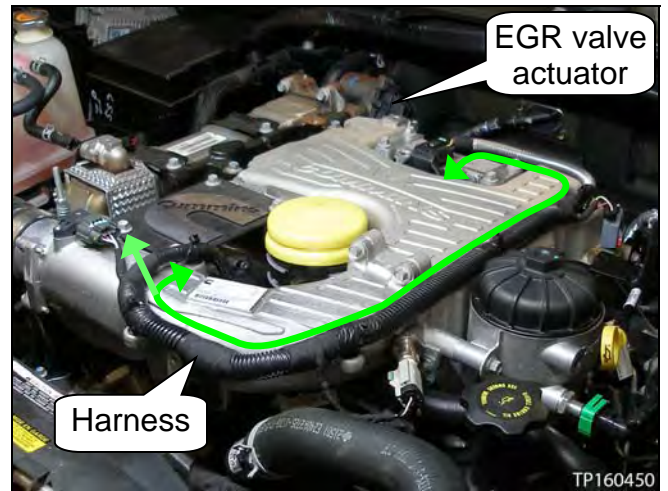

Figure 14
12. Disconnect the EGR valve actuator electrical connector (see Figure 14).
13. Disconnect the engine control harness connectors, and then move the section of engine control harness out of the way (see Figure 14).